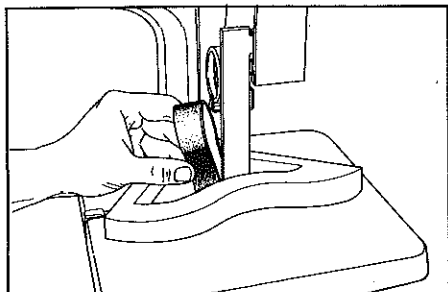

Figure 23. Insert the belt up through the holes in the table and the workpiece.
5. Insert the belt up through the holes in the table and the workpiece. (See Figure 23.)